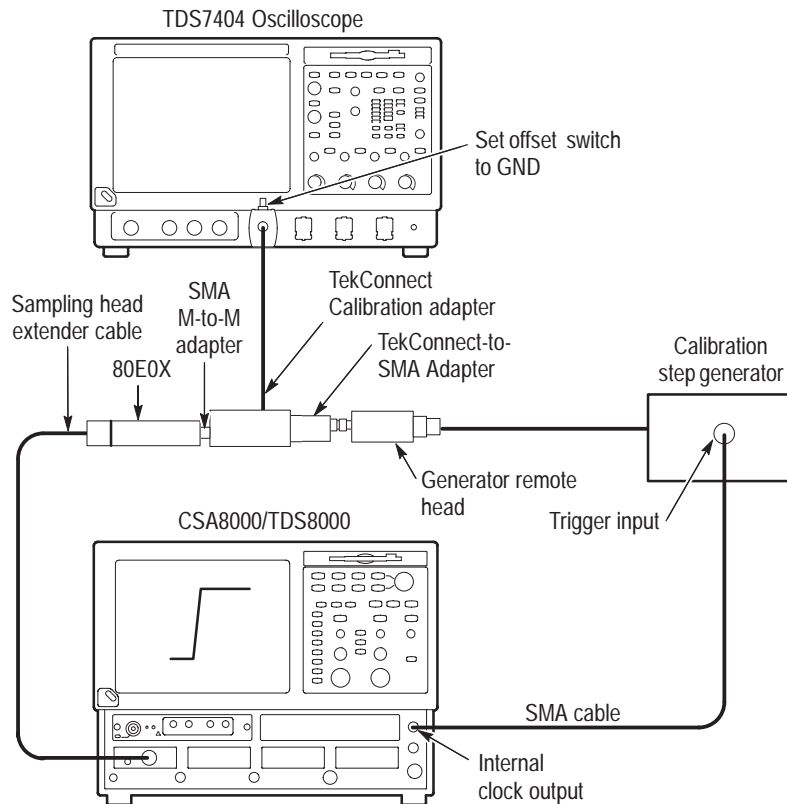

Figure 7: Test system rise time setup
- Connect the test equipment as shown in Figure 7 on page 11.
4. Adjust the oscilloscope horizontal and vertical position controls to display a signal similar to that shown in Figure 7.